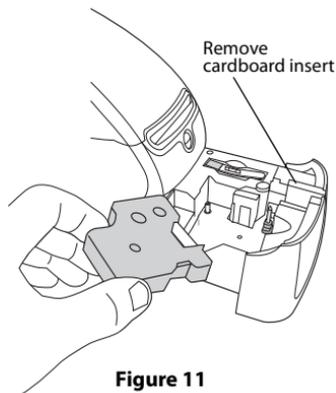

Figure 11
**NOTE** *The first time you use the printer, remove the protective cardboard insert from the label exit slot. See Figure 11.*